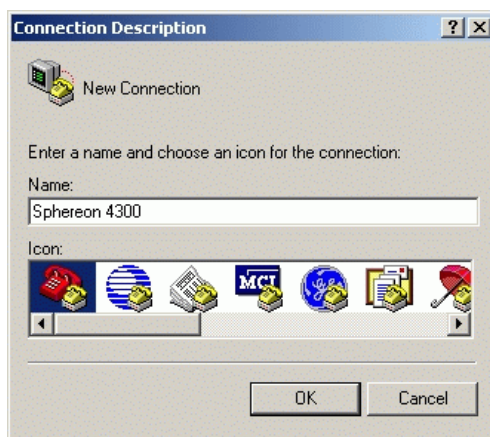

Figure 2-22 Connection Description Dialog Box
5. At the *Windows Workstation* menu, sequentially select the *Programs* option, *Accessories* option, *Hyperterminal* option, and *HyperTerminal* option. The *Connection Description* dialog box displays (Figure 2-22 on page 2-41).